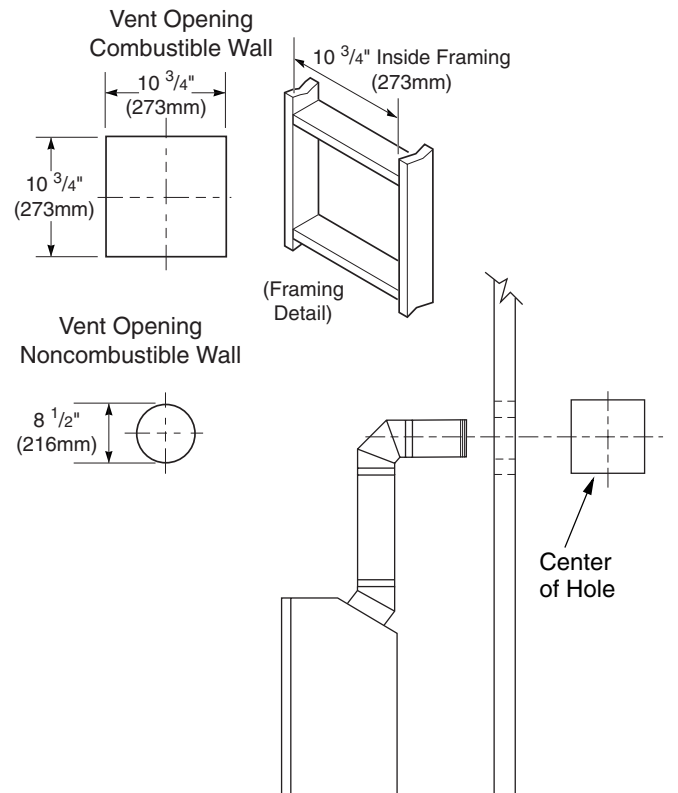
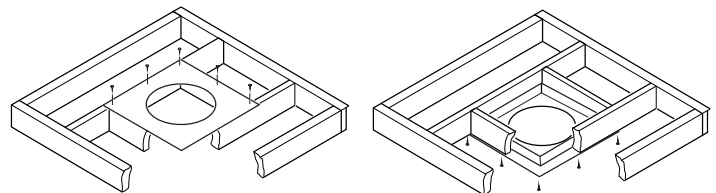

Figure 9 - Vent Opening Requirements
Figure 20 - Installing Firestop
5. Carefully determine the location where the vent pipe assembly will penetrate the outside wall. The center of the hole should line up with the center-line of the horizontal vent pipe. Mark the wall for a 10³/₄" x 10³/₄" square hole. Cut and frame the square hole in the exterior wall where the vent will be terminated. If the wall being penetrated is constructed of noncombustible material, such as masonry block or concrete, a 8¹/₂" hole with zero clearance is acceptable (see Figure 9).
1. Cut a 10 3/4" square hole in the ceiling using the locating hole as a center point. The opening should be framed to 10 3/4"x10 3/4" (273mm x 273mm) inside dimensions, as shown in Figure 9 on page 8 using framing lumber the same size as the ceiling joists. If the area above the ceiling is an insulated ceiling or a room, nail firestop from the top side. This prevents loose insulation from falling into the required clearance space. Otherwise, install firestop below the framed hole. The firestop should be installed with no less than three nails per side (see Figure 20).
3. Cut a hole in the roof using the locating hole as a center point. (Cover any exposed open vent pipes before cutting hole in roof.) The 10 3/4"x10 3/4" hole must be measured on the horizontal; actual length may be larger depending on the pitch of the roof. There must be a 1" clearance from the vent pipe to combustible materials. Frame the opening as shown in Figure 9, page 8.